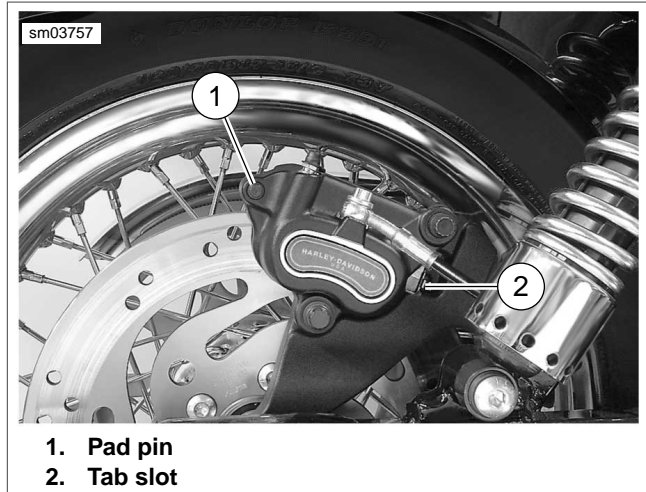

Figure 1-34. Pad Retaining Pin (Rear Caliper Shown)
3. See Figure 1-34. Loosen, but do not remove, pad pin (1) (metric).